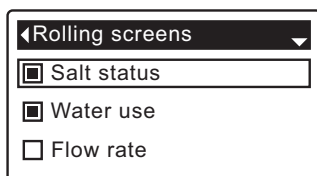

FIG. 50
5. Press the SELECT (O) button to display the Rolling screens menu (See Figure 50).